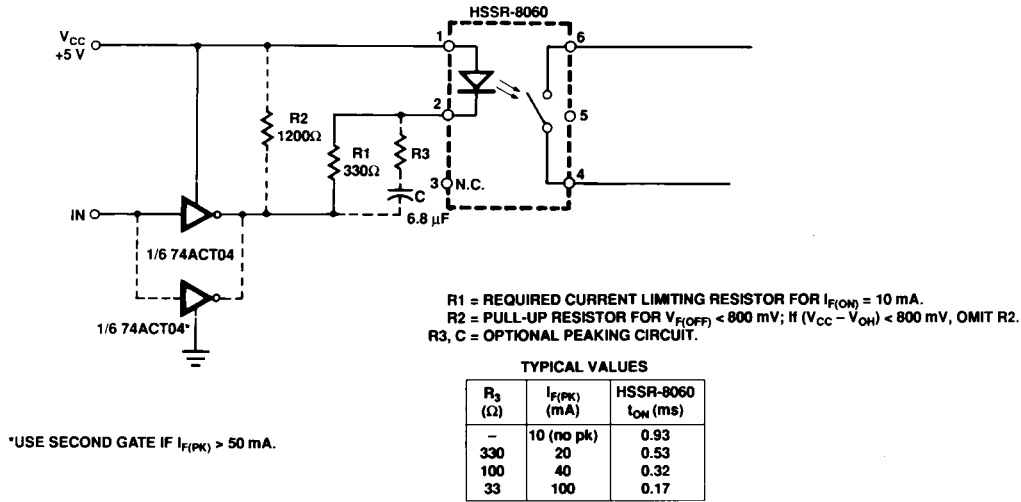

Figure 2. Recommended Input Circuit.
7. For a faster turn-on time, the optional peaking circuit shown in Figure 2 may be implemented.
For applications which are sensitive to turn on time, the designer should refer to Figures 20 and 21. These figures show that although there is very little variation in  $t_{ON}$  within most of the population, a portion of the distribution will vary with use. The optional peaking circuit shown in Figure 2 can be used to reduce the total turn on time and, consequently, any associated variation.